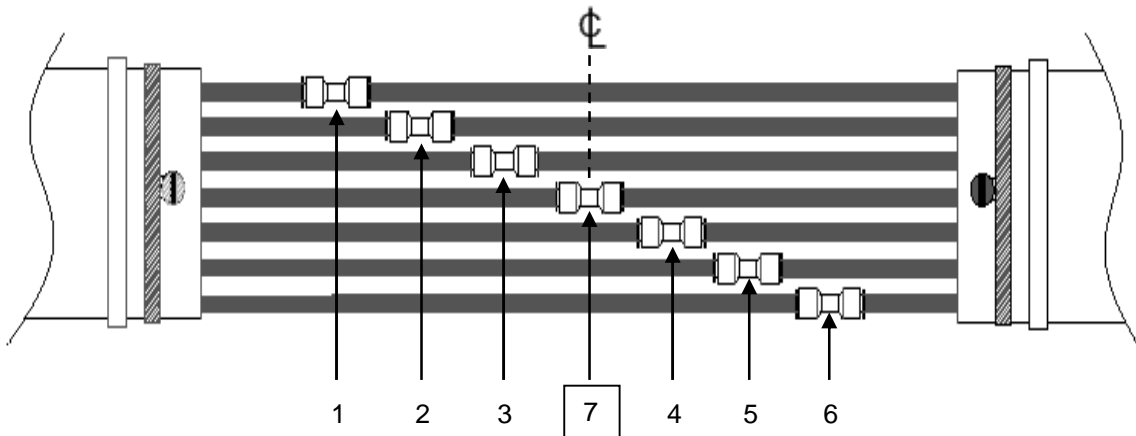

Figure 7
9.2 Chose one tube cable. Locate, measure, and mark its Tube 7 at one half the Strip Length dimension recorded earlier. See Fig. 7.